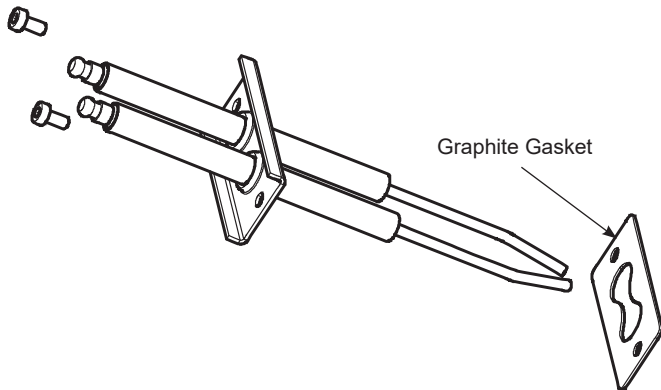

Figure 27: Igniter Electrode Assembly
- Install igniter as shown in Figure 27.